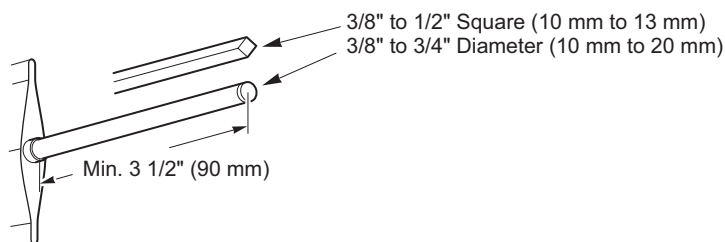
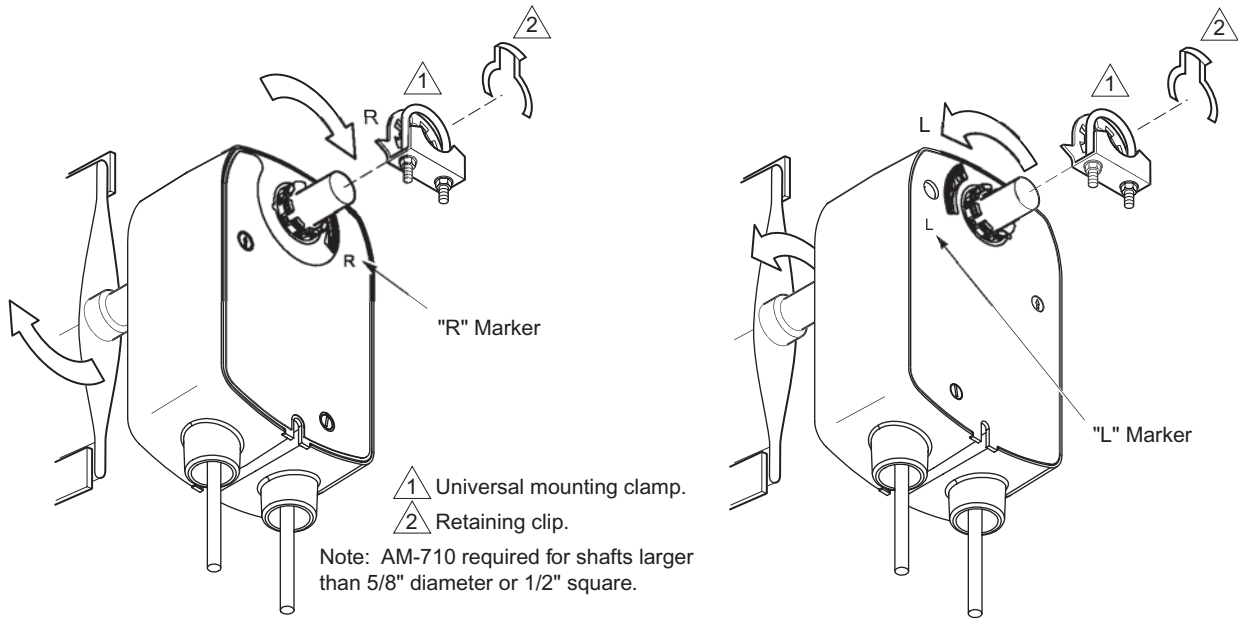
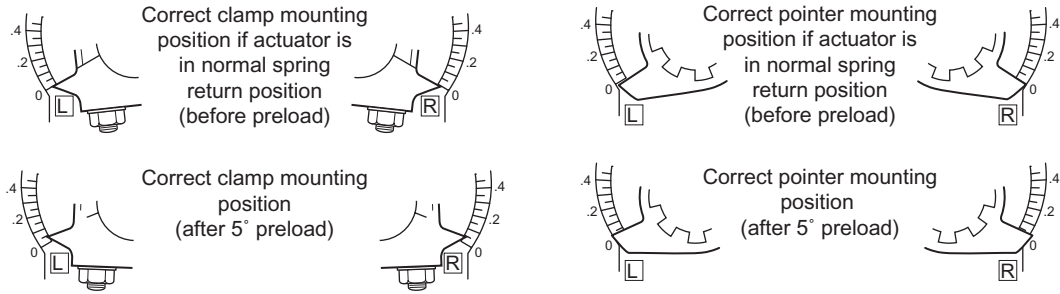
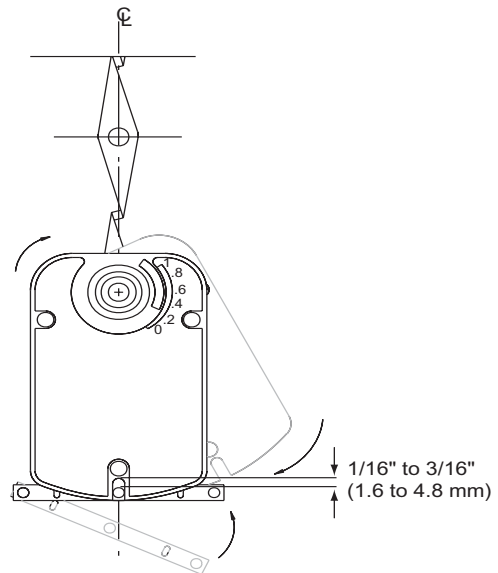

Figure-4 Long Damper Shaft Dimensions.
Figure-5 Long Damper Shaft with Clockwise or Counterclockwise Spring Return.
Figure-6 Universal Clamp and AM-709 Pointer (optional) Positions Indicating Normal Spring Return and Pre-load Settings for the Mx40-704x Series.
Figure-8 Anchoring the Actuator with the Universal Bracket.
Refer to Figure-4 for shaft dimensions, and to Figure-5 through Figure-8 for mounting.
1. The universal clamp must be attached to the actuator by the retaining clip (Figure-5).
3. Slide the actuator over the shaft and verify that the position indication pointer on the universal clamp is in the normal spring return position (Figure-6). Tighten the universal clamp, finger tight only.
7. Loosen the universal clamp, making sure not to move the damper shaft. Rotate the actuator approximately 50° in the direction which would open the damper (Figure-8).
8. Tighten the universal clamp to the damper shaft. Make sure the universal clamp is in the correct mounting position (Figure-6).
9. Manually rotate the actuator to align with universal bracket (Figure-6) and (Figure-8).
10. Pivot the universal bracket into place and secure both sides (Figure-8).
6. Slide the actuator over the shaft and verify that the position indicator is pointing to the normal spring return position (Figure-6). Tighten the universal clamp, finger tight only.
9. Pivot the universal bracket away from the actuator (Figure-8).
10. Loosen the universal clamp, making sure not to move the damper shaft. Rotate the actuator approximately 5° in the direction which would open the damper (Figure-8).
12. Manually rotate the actuator to align with universal bracket (Figure-6 and Figure-8).
13. Pivot the universal bracket into place and secure both sides (Figure-8).